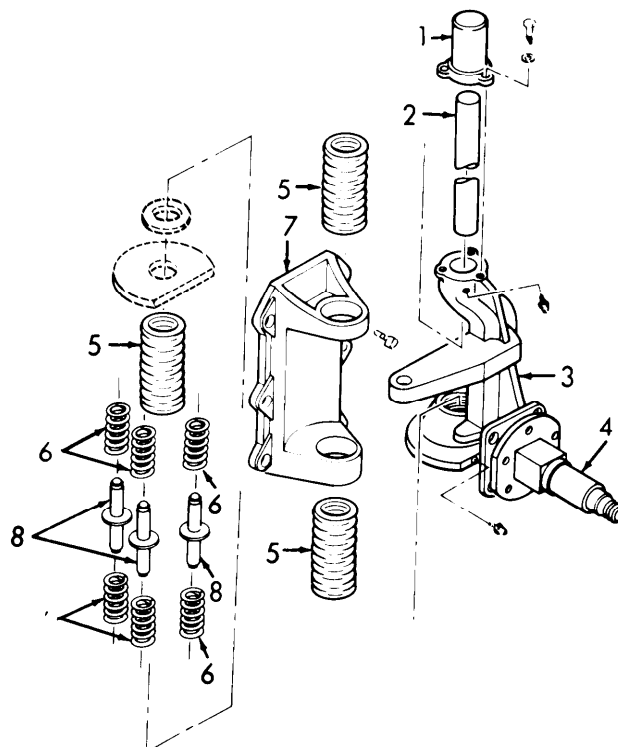

Figure 3-24. Shock Absorbing Spring Assembly, Inspection.
- (1) Check inside bore of cap (1, Figure 3-24) for wear.
- (2) Check kingpin (2) for wear.
- (3) Check springs (6) for broken or distorted coils.
- (4) Check dust covers (5) for tears.
- (5) Check spindle (4) on knuckle (3) for worn bearing surfaces and damaged threads.
- (6) Check bracket (7) and knuckle (3) for cracks.
- (7) Check spring guides (8) for wear and cracks.